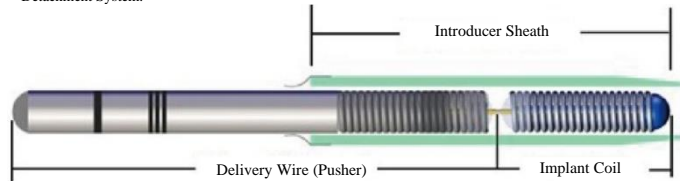

Figure 1. Diagram of NUMEN™ Coil Embolization System
The NUMEN™ Coil Embolization System consists of an implant coil attached to a delivery wire (pusher) within an introducer sheath (Figure 1). The NUMEN™ Coil Embolization System consists of three types of coils: MicroFrame (FR), MicroFill (HL), and MicroFinish (FN). There are a total of 177 model numbers (REF) that vary in shape and dimension. The NUMEN™ Coil Embolization System is designed to be used with separately provided NUMEN™ FR Detachment System.